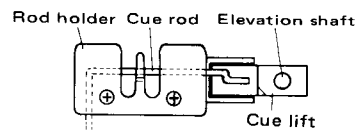

Fig. 5-2.
3. Detach the cue rod holder and cue rod by removing 2 screws (Fig. 5-2).